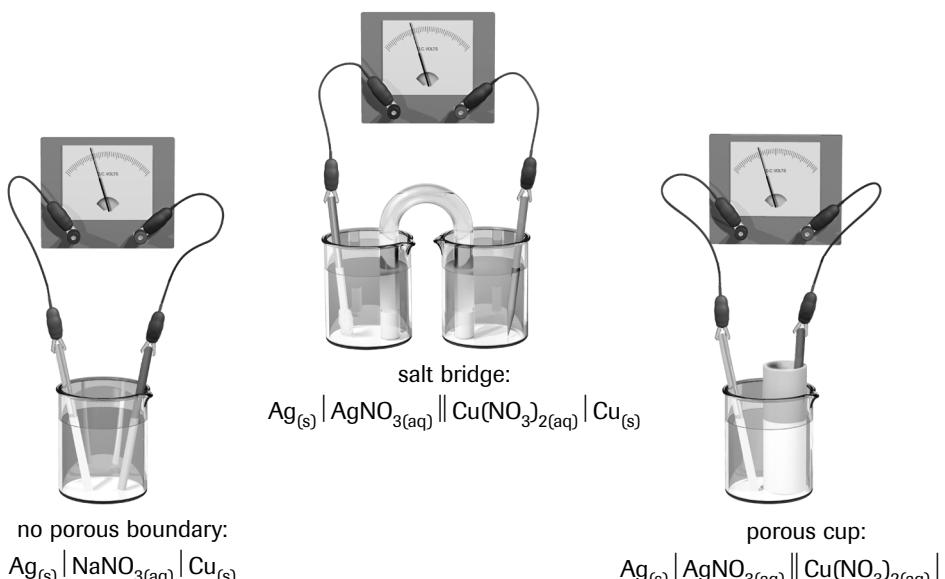

Figure 3
The purpose of this activity is to demonstrate the design and operation of a galvanic cell used in scientific research. A cell with only one electrolyte is compared with similar cells containing the same electrodes but two electrolytes (Figure 3).
- solutions of sodium nitrate, silver nitrate, copper(II) nitrate
- Construct the three cells shown in Figure 3.